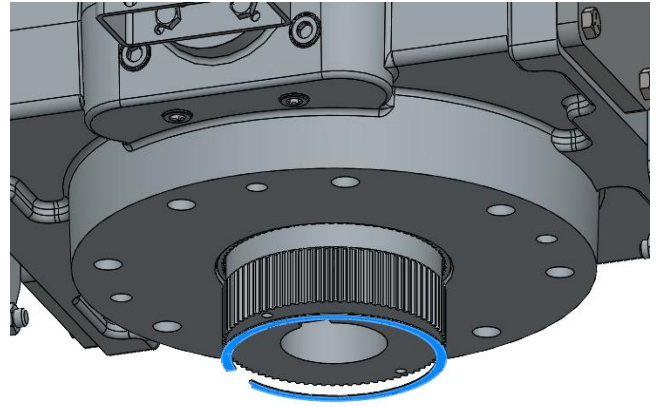

Figure 11 - Driver Removal
- Carefully pull the spline driver out of the drive hub. **Figure 11 - Driver Removal**